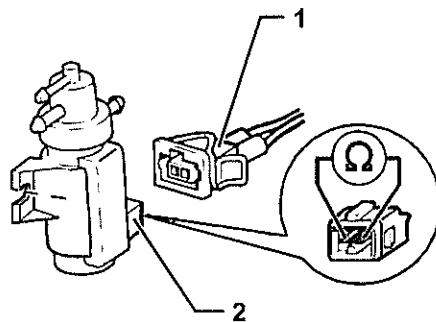

Fig 6 Solenoid valve for boost pressure control (N75)
13.3 Pull off the plug (see Fig 6/1) on the solenoid valve for boost pressure control (N75) (see Fig 6 (2)).